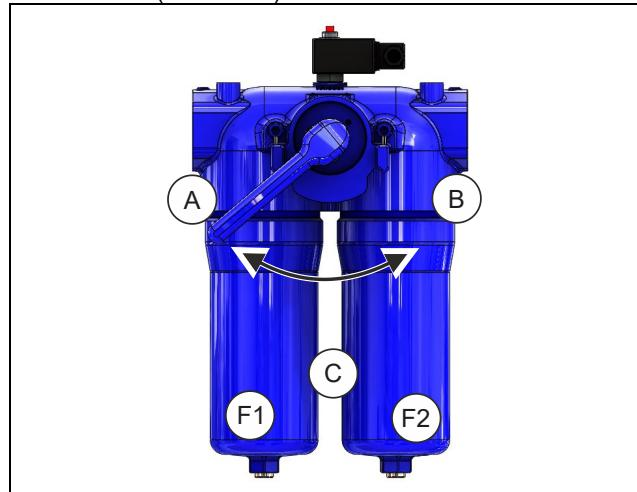

Fig. 7: Switch-over handle positions
<p>The direction of fluid flow is determined by the position of the marking on the switch-over handle (refer to Figure 7).</p> <ul style="list-style-type: none"> Operate the switch-over handle (5) and shift it to the required position: